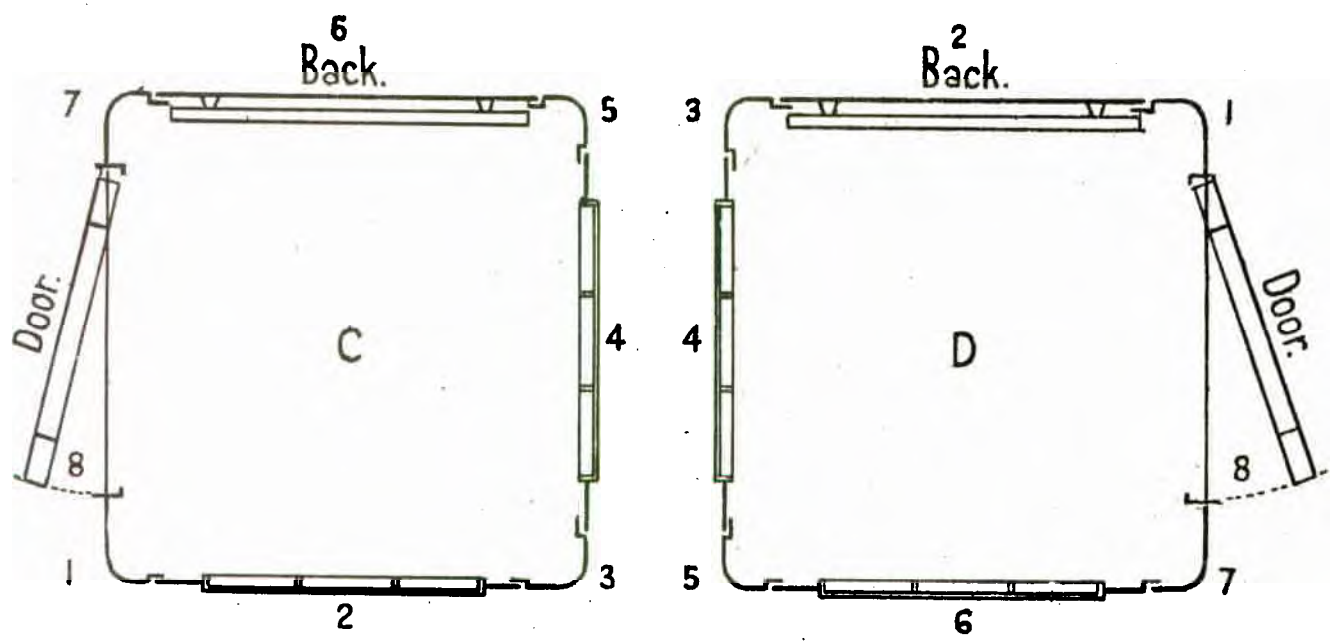

FIG. 1. - "KIOSK No. 6." - SHOWING NUMBERING OF THE VARIOUS SECTIONS
2. **Demands for complete kiosks.** Kiosks No. 6 are supplied in four types, 6A, 6B, 6C and 6D, according to the position of the door and back panel (see Fig. 1). All requisitions must show the appropriate suffix letters of the types required.
*NOTE 1.* Requisitions must state the type of kiosk for which the part is required, i.e. 6A, 6B, 6C or 6D and, as an additional aid to identification, the section number of the part, e.g. the left-hand rear corner pillar for a Kiosk No. 6A should be described as "Rear Corner Pillar, No. 5 for a Kiosk, No. 6A", (See Fig. 1).